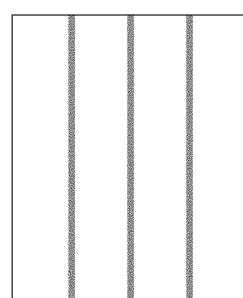

Fig.8-2
Background is smeared due to toner spread as shown in print sample \(1\) of Fig.8-2.
There is missing or peeling toner found in the image at the edge as shown in the print sample \(2\) of Fig.8-2.
Uneven optical density appears periodically in the horizontal direction on the printed image as shown in print sample \(3\) of Fig.8-2.
Light print occurs on the right or left hand side of the image as shown in print sample \(4\) of Fig.8-2.
Banding shadows of different optical density appear due to wrinkle, image migration and color misregistration occurring on the print paper as shown in print sample \(5\) of Fig.8-2.
Vertical white line appears in the specific color area when test-printed in the four color mode (Stripe Mode), as shown in **print sample (6) of Fig.8-2.**
Vertical white line appears from the leading edge to the trailing edge of the printed image as shown in print sample \(7\) of Fig.8-2.